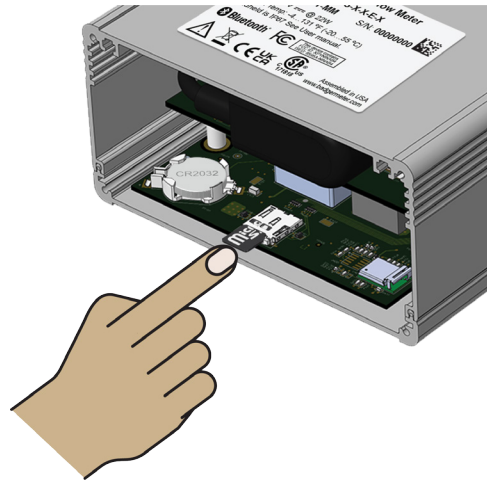

Figure 22: Insert new MicroSD card
- Insert a new card into the tray, pushing in the protruding end until it clicks into place, which locks the card to the tray. Refer to Figure 22 below.